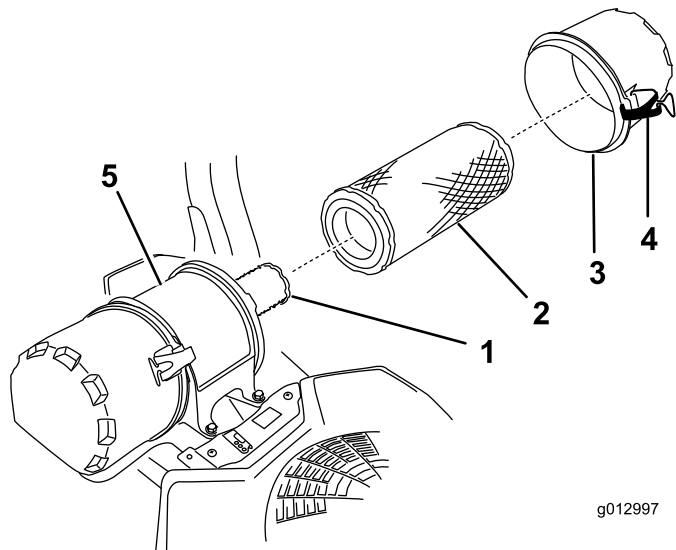

Figure 43
6. Release the latches on the air cleaner and pull the air-cleaner cover off the air cleaner body (Figure 43).
8. Gently slide the primary filter out of the air-cleaner body (Figure 43).
2. If the inner filter is being replaced, carefully slide it into the filter body (Figure 43).
3. Carefully slide the primary filter over the inner filter (Figure 43).
4. Install the air cleaner cover and secure the latches (Figure 43).